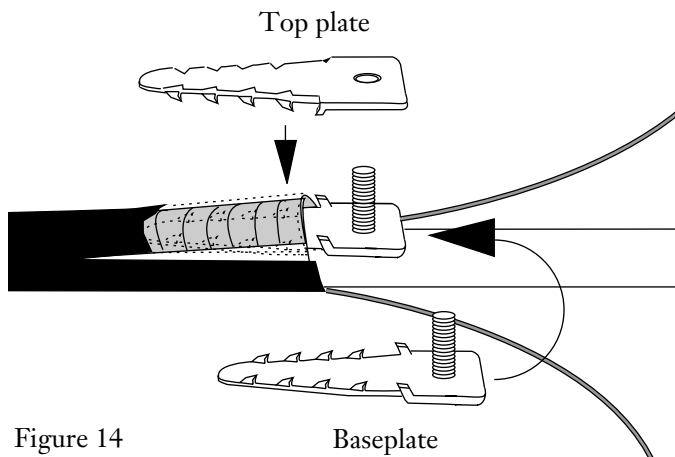

Figure 14
5.2 Slide the baseplate under the armor. Be careful not to damage the central tube. Place the top plate over the baseplate and tighten down with the 10 mm locknut (Figure 14). A few light taps on the top plate may help seat the teeth of the grounding clamp.